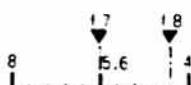

fig. 27-15
C < D → Rotate VR ⑥ clockwise (fig. 27-15)